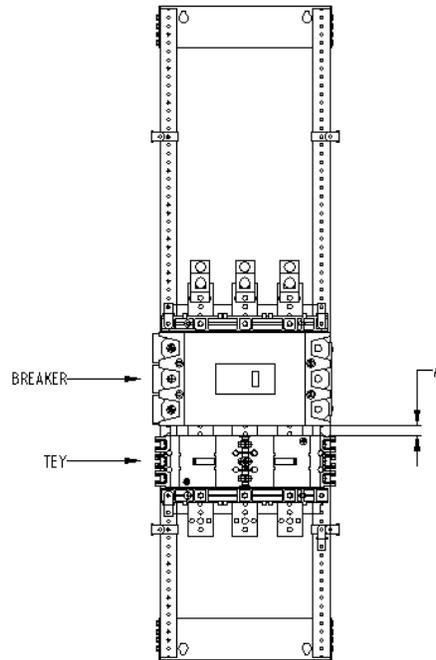

Figure 4. Distance between breakers
9. If TEY breakers has to be installed after SG or SF/TFJ or SE/TED/TQD as shown in Figure 4 then gap between the breakers (dim A) has to be followed as mentioned in Table 2. Replace the subsequent blank filler of dead front with TEY filler plate given in kit ASPP6TEY12D using steps 9 to 11.